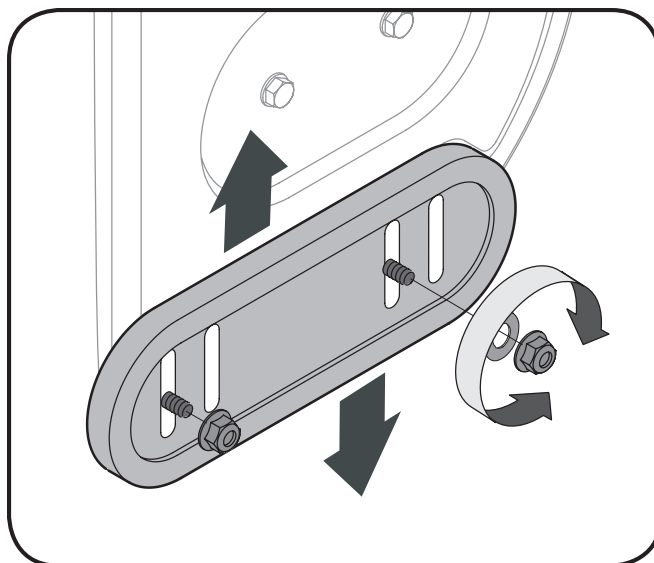

Fig. 3-13
1. Loosen the four hex nuts (two on each side) and carriage bolts. Move skid shoes to desired position. See Fig. 3-13.